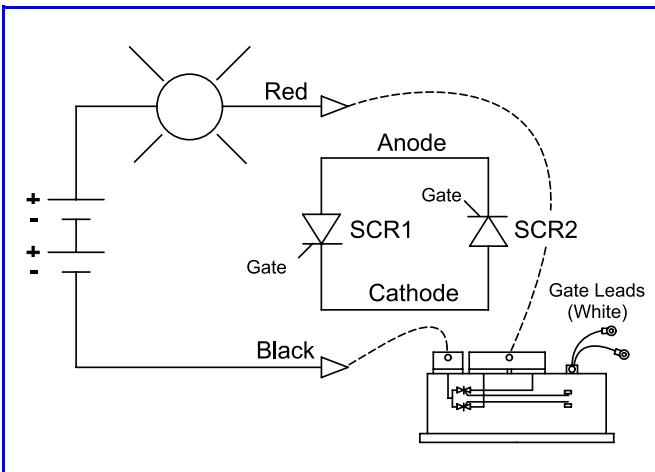

Figure 21 Testing SCR1
4. Place the red lead and black lead in circuit back-to-back across the SCR combination as shown in **Figure 21**. This tests SCR1.